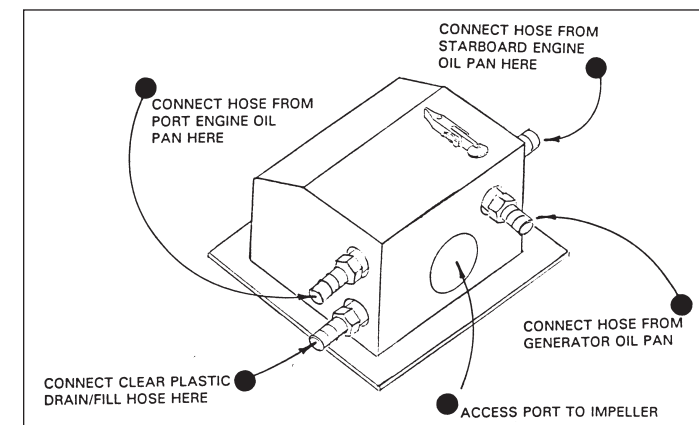

FIGURE 2
3. Connect properly measured lengths of approved 1/2" ID hose from each engine's oil pan drain to the appropriate hose barb on the X-Change-R®. (See Figures 2 & 3)
4. Connect the Drain/Fill Clear Hose provided with your X-Change-R® to the drain/fill outlet. (See Figures 2 & 3)
3. Connect properly measured lengths of approved 1/2" ID hose from each transmission to the appropriate hose barb on the external valve attached to the X-Change-R®. (See in Figures 2 & 3)